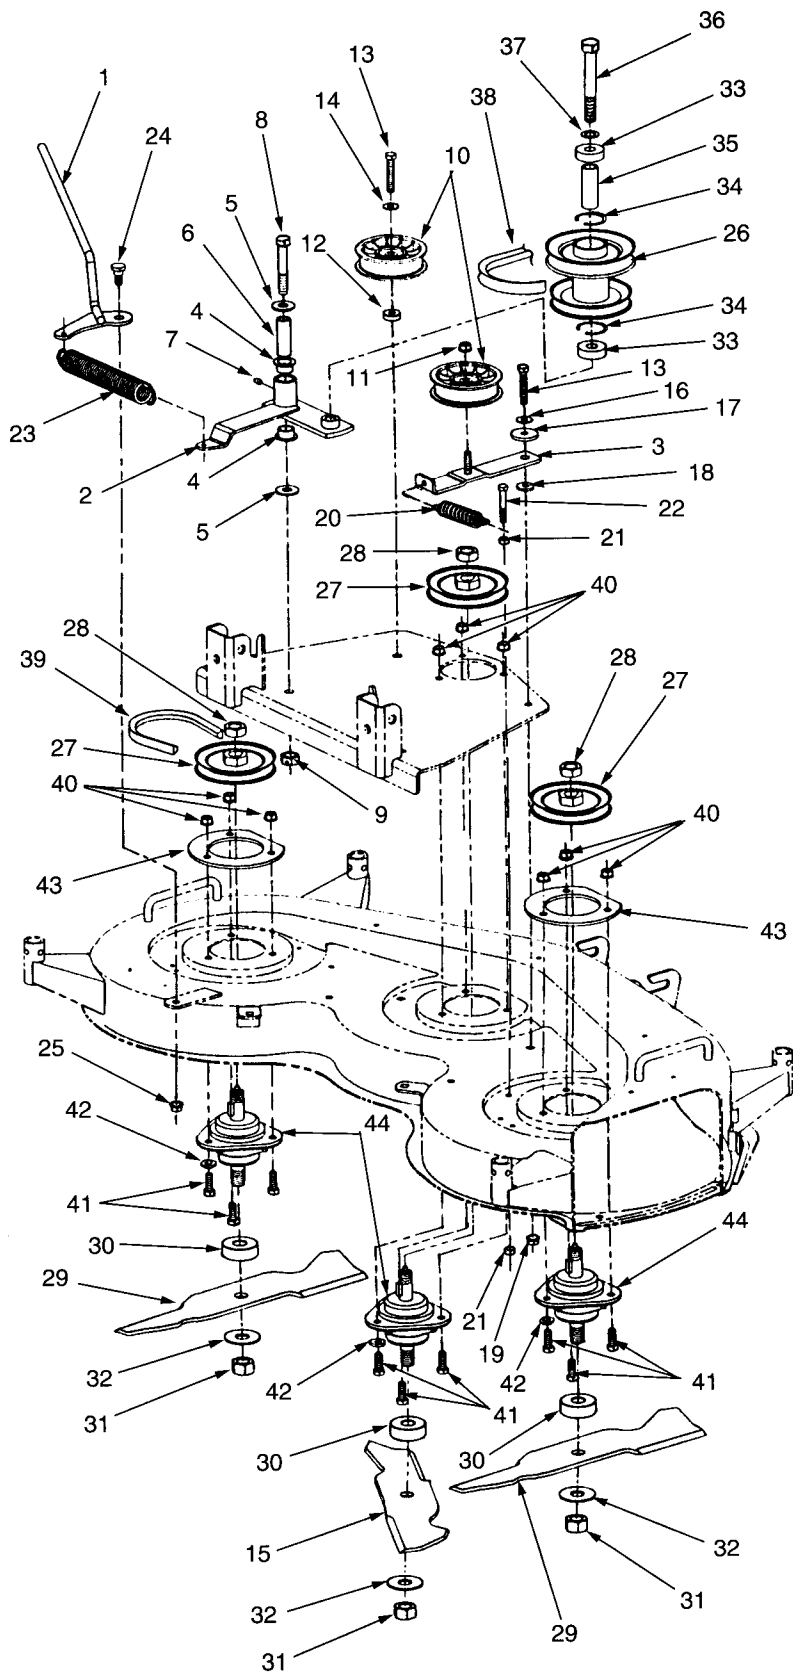

Figure 5-52. Deck Drive Components (Model 190 - 300 Mower Deck).
1. If not done previously, release the tension handle (1, Fig. 5-52) from the handle stop bracket (15, Fig. 5-51), and also remove the PTO belt (38, Fig. 5-52) from the PTO clutch.
5. Rotate the tension handle (1, Fig. 5-52) rearward to remove the extension spring (23) from the tension handle and pulley pivot arm (2).
6. Remove the tension handle (1, Fig. 5-52) from the deck housing by removing the hex flanged lock nut (25) and shoulder bolt (24).
7. Pull the movable flat idler pulley (10, Fig. 5-52) and idler arm (3) away from the spindle V-belt (39) to release the tension and remove the V-belt from the deck.
8. Remove the extension spring (20, Fig. 5-52) from the idler arm (3) and hex cap screw (22).
9. Remove the idler arm (3, Fig. 5-52), flat idler pulley (10), and shoulder spacer (17) as an assembly by removing the hex flanged lock nut (19), hex cap screw (13), bell washer (16) and flat washer (18). Separate the shoulder spacer from the idler arm.
10. Remove the fixed flat idler pulley (10, Fig. 5-52) and spacer (12) from the mounting plate (2, Fig. 5-51) by removing the hex cap screw (13) and bell washer (14).
11. Remove the double pulley pivot arm (2, Fig. 5-52) and double pulley (26) from the mounting plate, as one assembly, by removing the hex center lock nut (9), hex cap screw (8), and flat washers (5).
Use care when handling the mower blades (15 and 29, Fig. 5-52). Sharp edges of the blades could cause cuts to the skin.
When the hex nut (31, Fig. 5-52) is removed, the spindle shaft, with V-pulley (27), is free to fall from the spindle assembly (44) when the deck is tipped or inverted to remove the blades. Use care to prevent these parts from falling, which could cause damage or injury.
To prevent the spindle shaft from turning when removing the hex nut (31, Fig. 5-52) and/or hex jam nut (28), use a 1-1/4 inch wrench to hold the hex shaped hub of the V-pulley (27).
18. Remove the center cutting blade (15, Fig. 5-52) and spacer (30) from the spindle assembly (44) by removing the hex nut (31) and flat washer (32).
If the woodruff key is removed from the spindle shaft when removing the V-pulley (27, Fig. 5-52), the shaft will be free to fall from the spindle housing and may cause damage or injury.
19. Remove the hex jam nut (28, Fig. 5-52) from the center spindle assembly (44) and pull the V-pulley (27) from the spindle shaft and woodruff key.
20. Remove the center spindle assembly (44, Fig. 5-52) from the mounting plate (2, Fig. 5-51) and deck housing (1) by removing the hex flanged lock nuts (40, Fig. 5-52), hex cap screws (41), and flat washers (42).
22. Carefully remove the outer cutting blades (29, Fig. 5-52) and spacers (30) by removing the hex nuts (31) and flat washers (32).
23. Remove the hex jam nuts (28, Fig. 5-52) from the outer spindle assemblies (44) and pull the V-pulleys (27) from the spindle shafts and keys.
24. Remove the outer spindle assemblies (44) and spindle mounting plates (43) from the deck housing by removing the hex flanged lock nuts (40, Fig. 5-52), hex cap screws (41), and flat washers (42).
25. If necessary, note the hole location and remove the hex cap screw (22, Fig. 5-52) and upper hex nut (21) from the deck housing by removing the lower hex nut (21)
Disassembly, inspection, and reassembly of the spindle assemblies (44, Fig. 5-52) are covered in paragraph 5-37.
1. Remove the flat idler pulley (10, Fig. 5-52) from the idler arm (3) by removing the hex flanged lock nut (11).
2. Remove the double pulley (26, Fig. 5-52) assembly from the pulley pivot arm (2) by removing the hex cap screw (36) and flat washer (37).
3. Disassemble the double pulley (26) assembly as follows:
- a. Slide the ball bearing (33) from each end of the pulley hub and remove the pulley spacer (35).
- b. Remove the internal snap rings (34) from inside the pulley hub.
4. Disassemble the double pulley pivot arm (2) assembly as follows:
- a. Slide the idler brkt. spacer (6) from the hub of the pivot arm.
- b. If necessary, press the flange bearings (4) from each end of the pivot arm hub. Discard and replace the bearings if removed.
- c. Remove the lube fitting (7), only if necessary, by pulling from the pivot arm hub. The lube fitting must be replaced if removed.
7. Inspect the shoulder spacer (17, Fig. 5-52) and idler arm (3) for wear to mating surfaces.